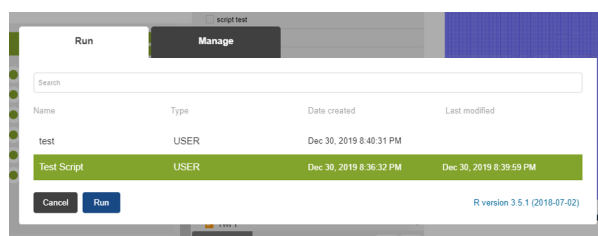

Figure 46: Running a custom script
2. On the **Run** tab, select a saved script from the list and select **Run** (see Figure 46).